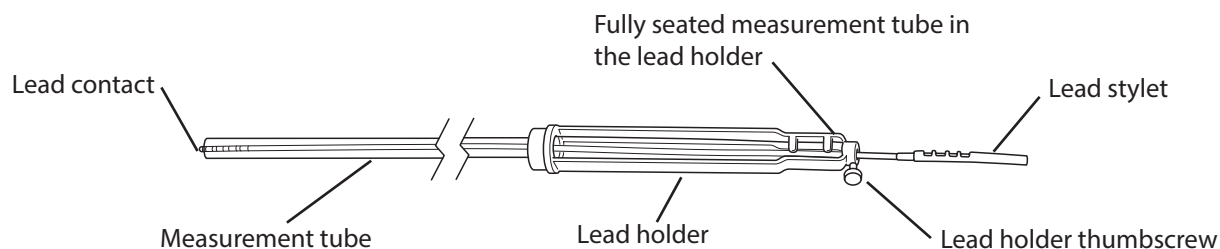

Figure 26. Use the measurement tube to set the lead length.
2. Set the lead length with the measurement tube (ie, set the desired contact for the target) (Figure 26). Tighten Lead Holder thumbscrew.